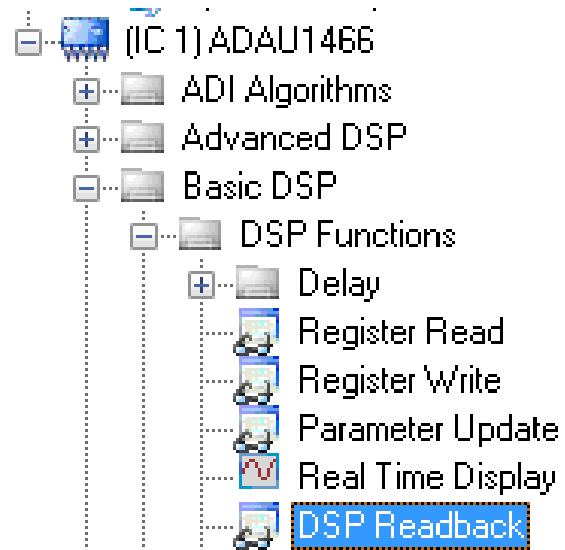

Figure 58. **DSP Readback** Block Selection
- a. From the **Basic DSP > DSP Function** folder, click **DSP Readback** (see Figure 58) and drag it into the project space to the right of the toolbox.